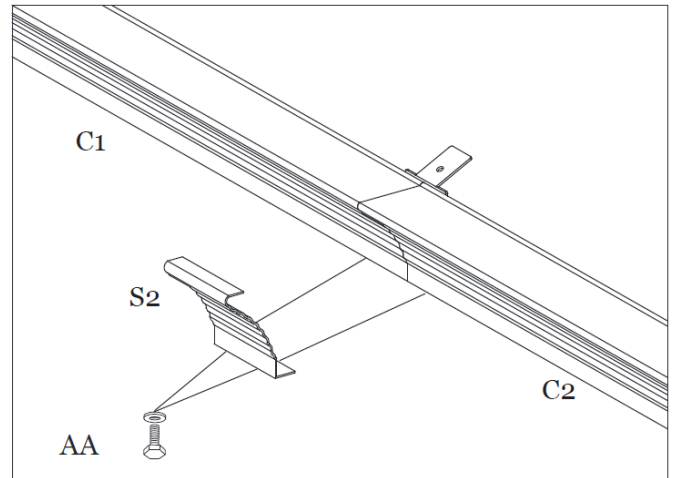

Figure 5-2
Step 5B: Attach Center Lintel Cover (S2) to Lintels (C1 and C2). **Tighten all Bolts.** See Figure 5-2.